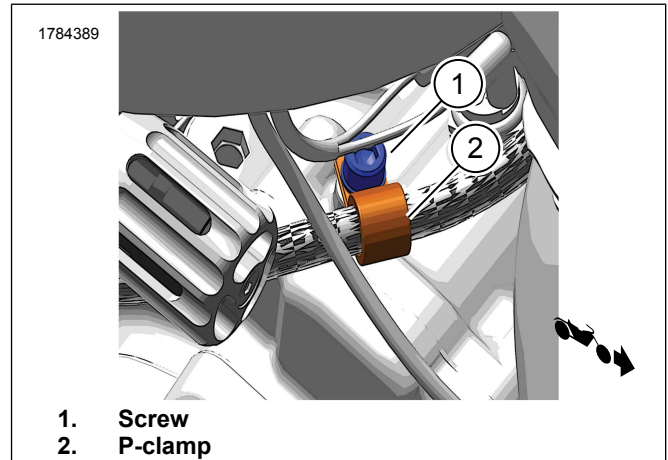

Figure 2. Install P-clamp and Screw
1. See Figure 2. Secure hose with P-clamp (2) and screw (1) to vehicle.